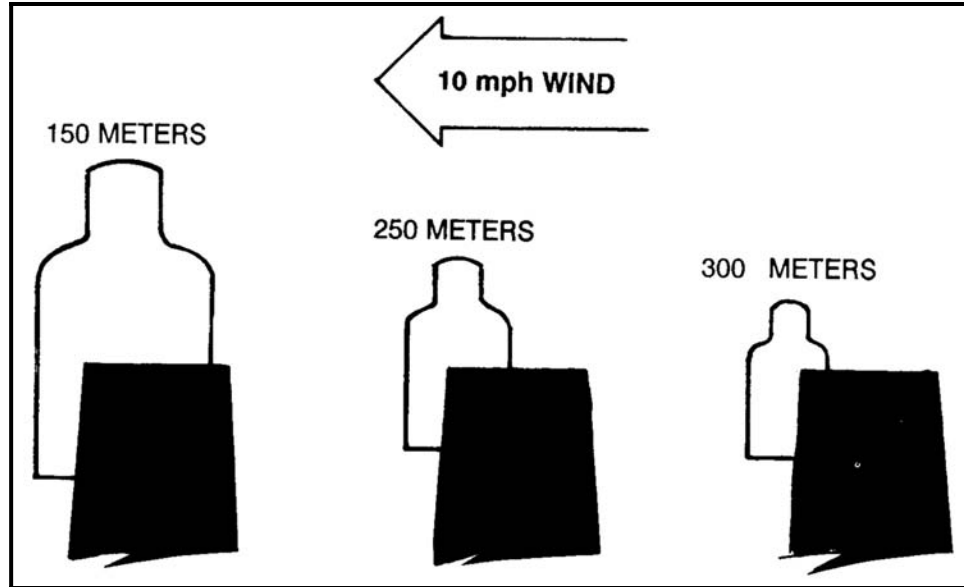

Figure 5-31. M16-/M4-series weapons adjusted aiming point based on wind speed.
*f. **Adjusted Aiming Point Based on Gravity and Wind Speed** (Figure 5-31). Wind has a minor effect on the M16 bullet relative to the size of the target at ranges out to 100 meters. When engaging targets in excess of 150 meters in heavy winds, adjusting the aiming point for the wind increases the probability of a hit. Wind effects are uniform in relation to speed—that is, a 5-mile-per-hour wind has one-half the effect of a 10-mile-per-hour wind, and a 20-mile-per-hour wind has twice the effect of a 10-mile-per-hour wind.